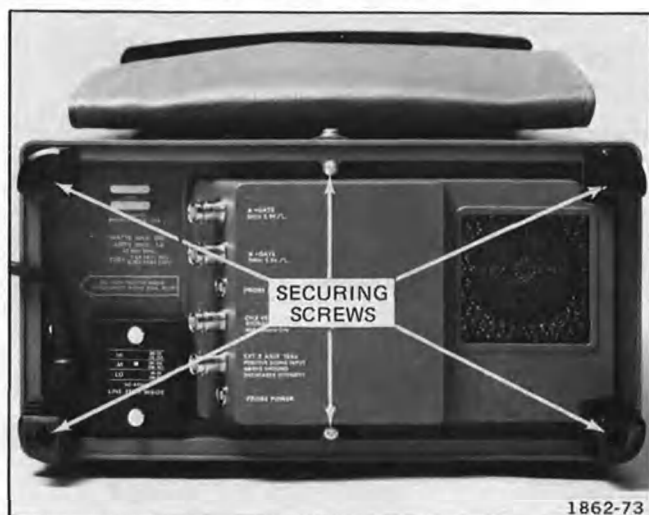

Fig. 4-1. Typical Rear Cabinet Frame Removal.
2. Remove the six screws indicated in Figure 4-1 and remove the rear ring assembly from the instrument.